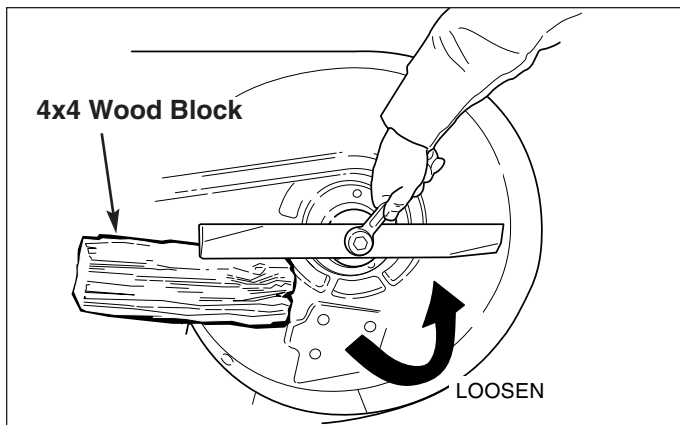

Figure 22. Removing the Blade
3. To remove the blade, use a wood block to hold blade while removing the blade mounting capscrew (Figure 22).